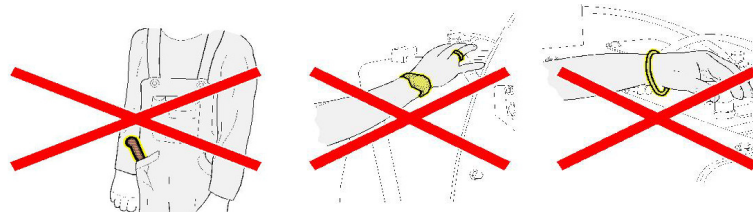

fig. 2.12
20. In any case, do not wear flapping and/or ripped items and/or clothes (necklaces, watches, bracelets, scarves, headscarves, ties, etc.) (fig. 2.12).